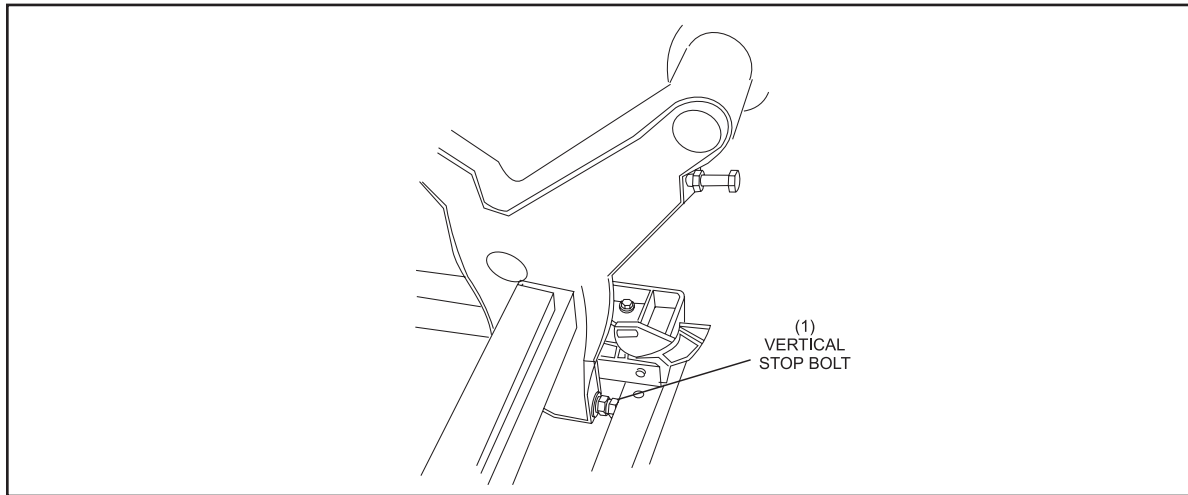

Figure 5-39. Adjust Pin Holders.
1. To adjust all ten pin holders forward or backward, loosen the jam nut on the vertical stop bolt mounted on the rear right swing shaft. Refer to *Figure 5-39*. This bolt stops the vertical rotation of the rear pin holder swing shaft when the table goes down for a new pin setting stroke.